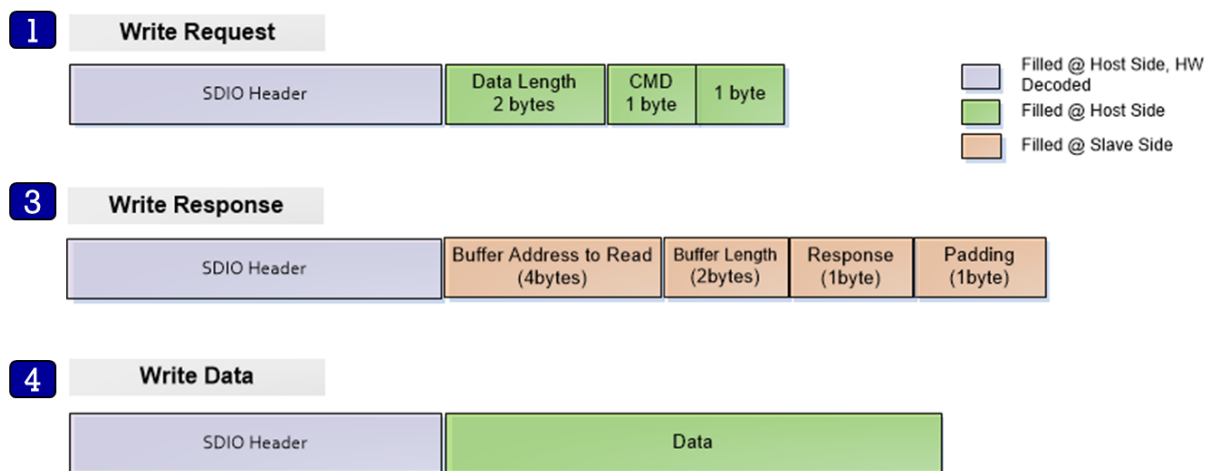

Figure 14. Structure
4. The Host sends data to address (BUFF_ADDR) which is received from the Slave in the Write Response message (green rectangle in Figure 14).